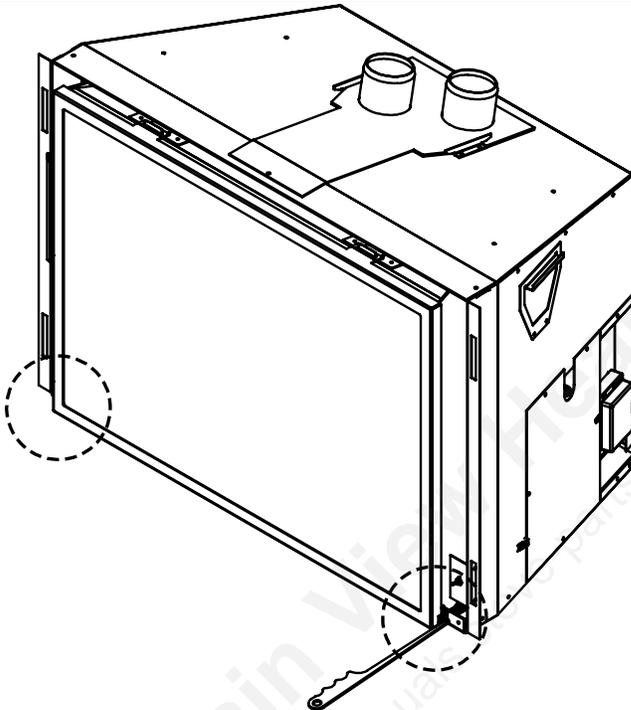
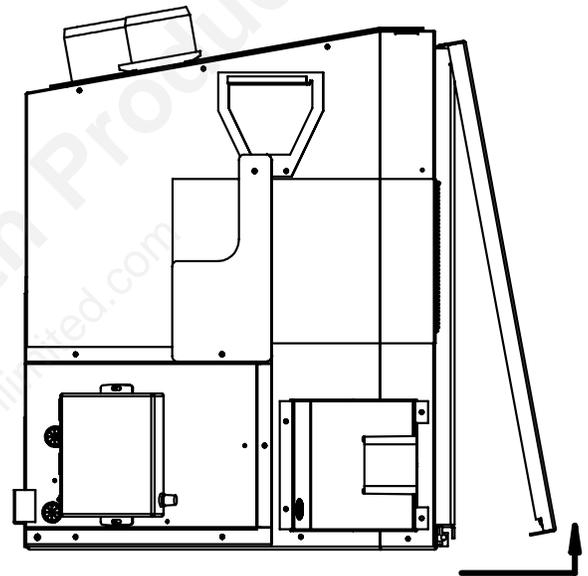

Figure 19: Door Release.
Figure 20: Door Removal.
Remove the glass door by placing the hooked end of the door release tool in the hole on the door latch mechanism (see Figure 19) and pulling the latch out then up. When the two (2) latches have been released, tilt the bottom of the door forward and then lift up to unhook the top door tabs (see Figure 20).